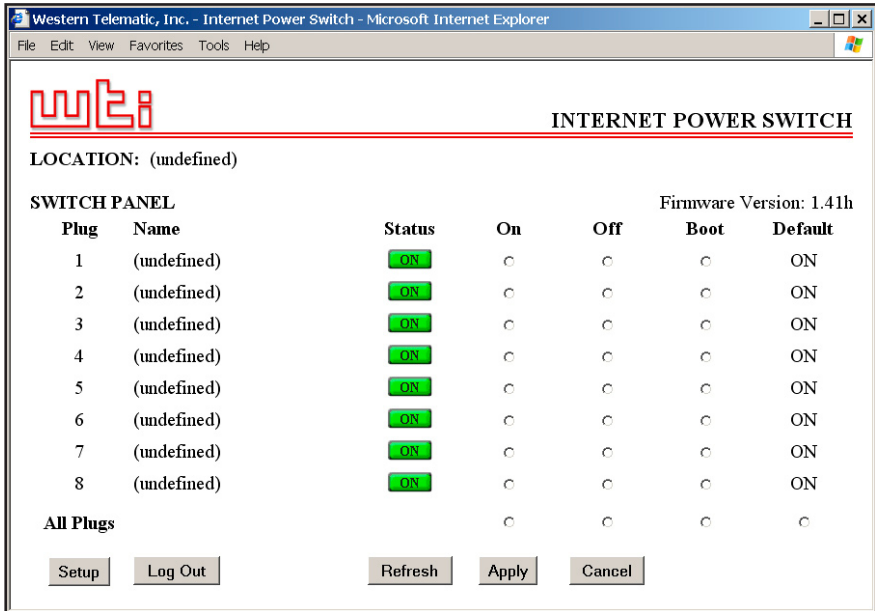

Figure 6.1: Plug Status Menu - Web Browser Interface (IPS-800CE-D16 Shown)
When you login to the IPS command mode using the Web Browser Interface, the first screen that is displayed is the Plug Status Screen (or "Switch Panel".) The Plug Status Screen (Figure 6.1) lists the current On/Off status of the IPS's Switched Outlets and provides a series of "radio buttons" which are used to control On/Off/Boot switching of the outlets.
2. When the Plug Status Screen (Figure 6.1) appears, note that the screen includes a status field and switching and reboot controls for each of the IPS's Switched AC Outlets.